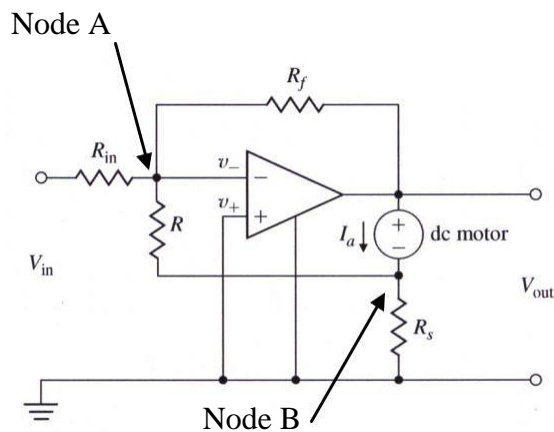

Figure 2.49: Op Amp circuit for Problem 13 with nodes marked.
13. A common connection for a motor power amplifier is shown in Fig. 2.49. The idea is to have the motor current follow the input voltage and the connection is called a current amplifier. Assume that the sense resistor, R_s is very small compared with the feedback resistor, R and find the transfer function from V_{in} to I_a . Also show the transfer function when $R_f = 1$: